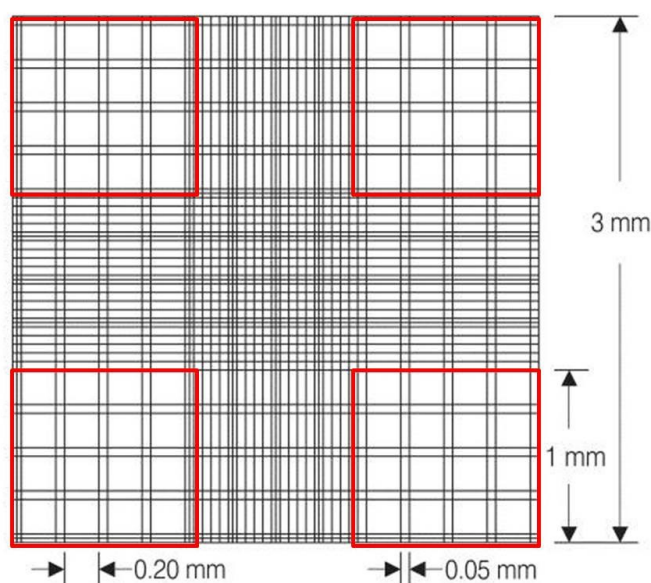

Figure 2. Counting cells using a haemocytometer
- d. Count the cells in the 4 large squares (in red) (see Figure 2) using a cell counter.